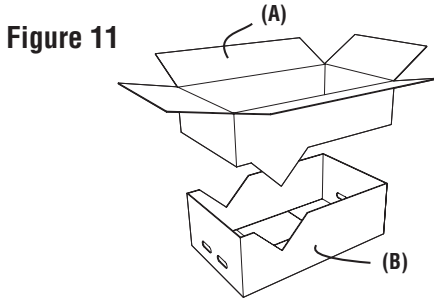

Figure 11
2. Using cutting line around the carton, cut into two pieces (A) and (B). See Figure 11.